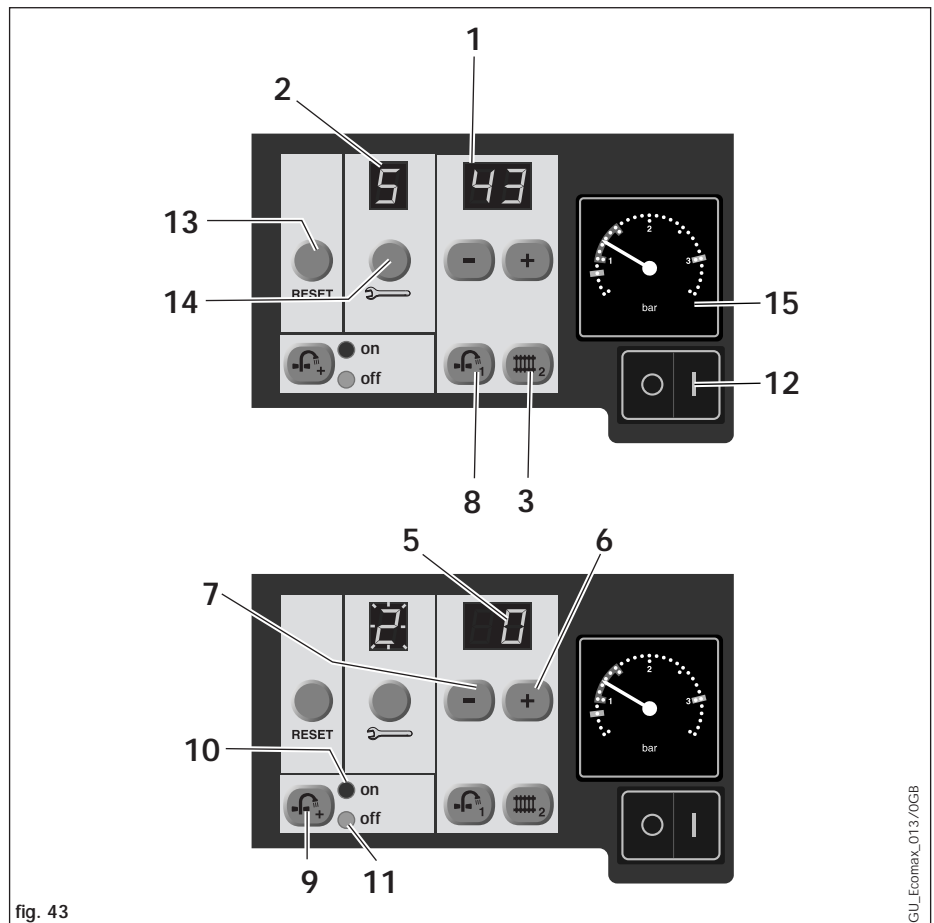

fig. 43
The boiler display (1 and 2, fig. 43) normally indicates boiler operating status and boiler flow temperature. Whilst this display is showing the boiler has internally self checked and is operating normally.
The operating status of the boiler is permanently displayed by a series of codes which appear in the status window (2, fig. 43) of the boiler display. This information can be used to carry out a functional check of the boiler DHW and CH operation. Table 6 details the meaning of the status indicators.
- Press the central heating temperature  button (3, fig. 43).
- To turn on the warmstart facility, press the warmstart  button (9, fig. 43). The green 'On' indicator will now illuminate (10, fig. 43).
- To turn off the warmstart facility, press the warmstart  button (9, fig. 43). The red 'Off' indicator will illuminate.
- Press the central heating temperature button  (3, fig. 43).
Operate boiler and turn off gas supply at boiler gas service valve. The boiler should attempt to relight for approximately 5 seconds before shutting down. The boiler will attempt re-ignition five times after which fault code F21 will be displayed on the diagnostic display. Open the gas service valve and press the reset button (13, fig. 43). The boiler should now relight.
(The actual reading on the pressure gauge (15, fig. 43) should ideally be 0.5 bar plus an additional pressure corresponding to the highest point of the system above the base of the boiler - 10 m head equals and additional 1 bar reading on the pressure gauge. The minimum pressure should not be less than 1 bar in any installation.)